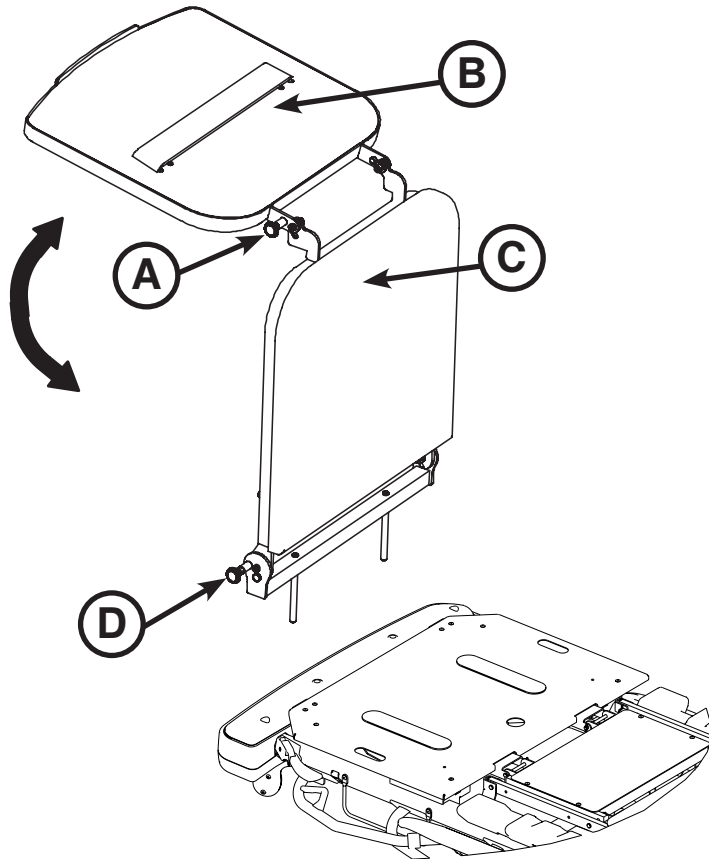

Figure 37: Foot Extension/Defibrillator Tray - Foot End
To use as a defibrillator tray, pull out the top knob (A) and pivot the tray (B) over the foot extension (C) until the tray extends flat over the foot end of the stretcher as shown in Figure 37.
To use as a foot extension, pull out knob (A) and pivot the defibrillator tray back until it locks against the foot extension (C). While holding onto the assembly, pull out the bottom knob (D) and lower the foot extension down until it is flat as shown in Figure 37.